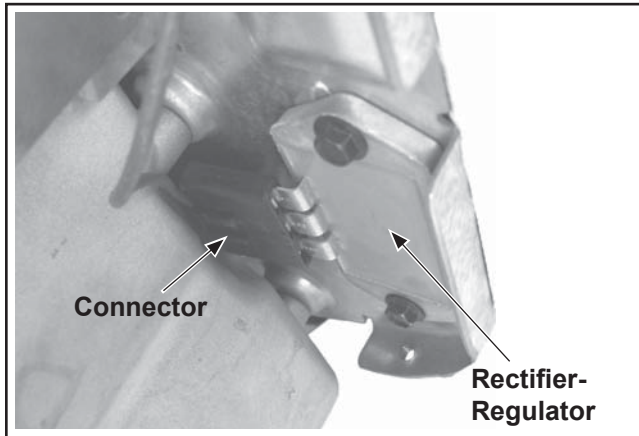

Figure 10-64. Installed Rectifier-Regulator.
2. Attach the rectifier-regulator to the opening in backing plate from the underside, and secure with the two mounting screws. See Figure 10-64.